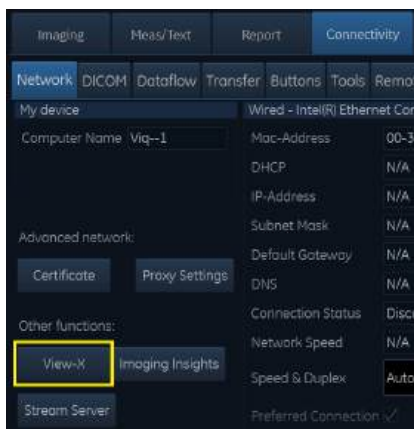

Figure 3-24. Video Streaming under network configuration.
3. Select **View-X** (Figure 3-24).